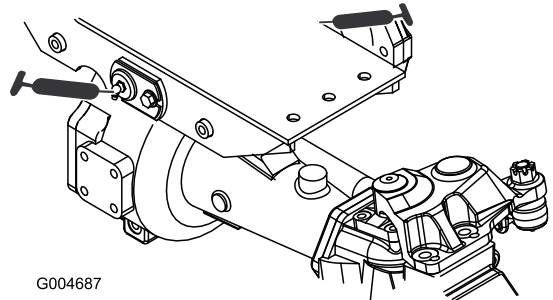

Figure 38
- Front and rear axle pivot bushings (2) (Figure 38)